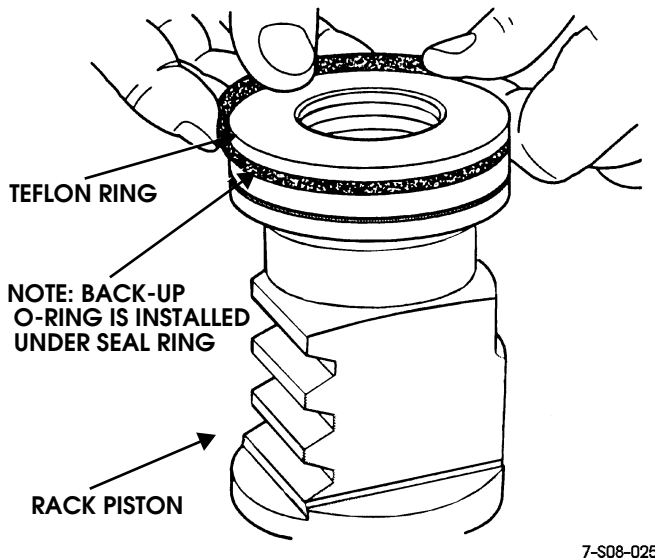

Figure 8-52: Rack Piston Seal Ring Installation
3. Install new teflon seal ring in groove **over** backup O-ring (Figure 8-52).